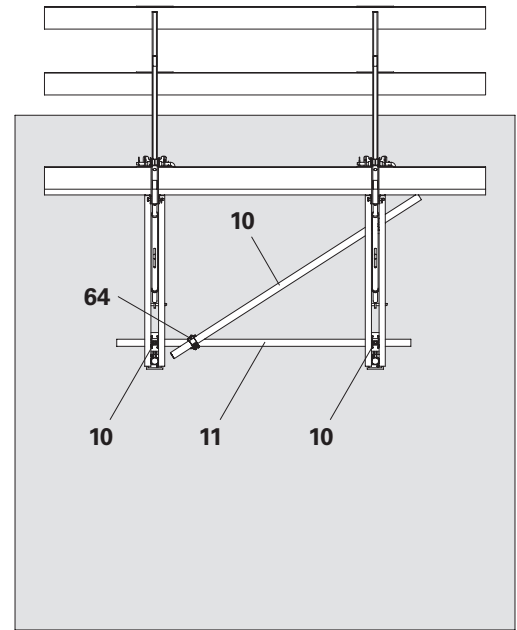
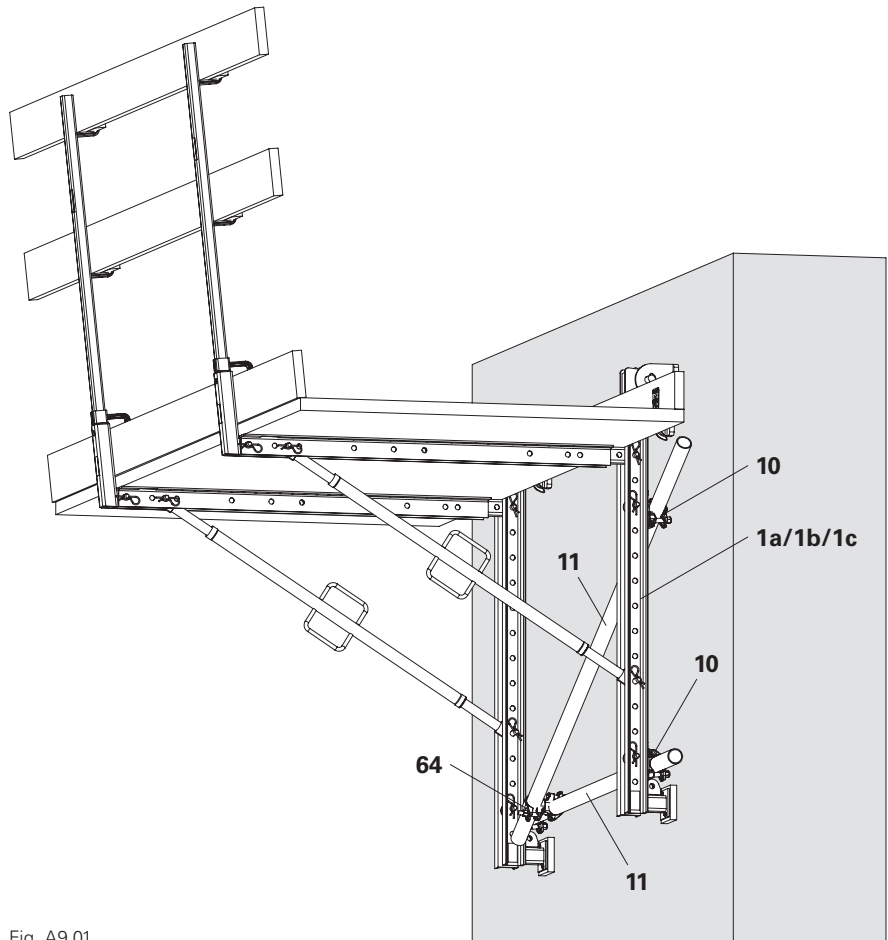

Fig. A9.01b
Fig. A9.01
1. Mount Bracing Connector VGK (10) with bolt ISO 4014 M16 x 80-8.8 (10.1) and nut ISO 4032 M16-8 (10.2) at the specified points on Bracket Post VGK (1a/1b/1c).
2. Attach Scaffolding Tube $\varnothing 48.3 \times 3.2$ (11) and tighten bracing connectors.
3. Mount Swivel Coupling AF 48/48 (64) on Steel Scaffolding Tube $\varnothing 48.3 \times 3.2$ (11).
4. Attach Steel Scaffolding Tube $\varnothing 48.3 \times 3.2$ (11) to Swivel Coupling AF 48/48 (64) and Bracing Connector VGK (10) and tighten.
- (Fig. A9.01 – Fig. A9.01b)